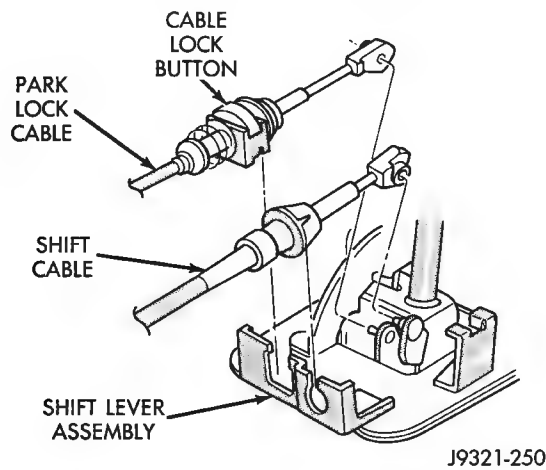

Fig. 4 Park Lock Cable Attachment (XJ)
- (1) Shift transmission into Park.
- (2) Turn ignition switch to Lock position.
- (3) Remove shift lever bezel and console screws. Raise bezel and console for access to cable.
- (4) Pull cable lock button up to release cable (Fig. 4).
- (5) Pull cable forward. Then release cable and press cable lock button down until it snaps in place.
- (6) Check adjustment as follows:
- (7) Move shift lever back to Park and check ignition switch operation. You should be able to turn switch to Lock position and shift lever release button/lever should not move.